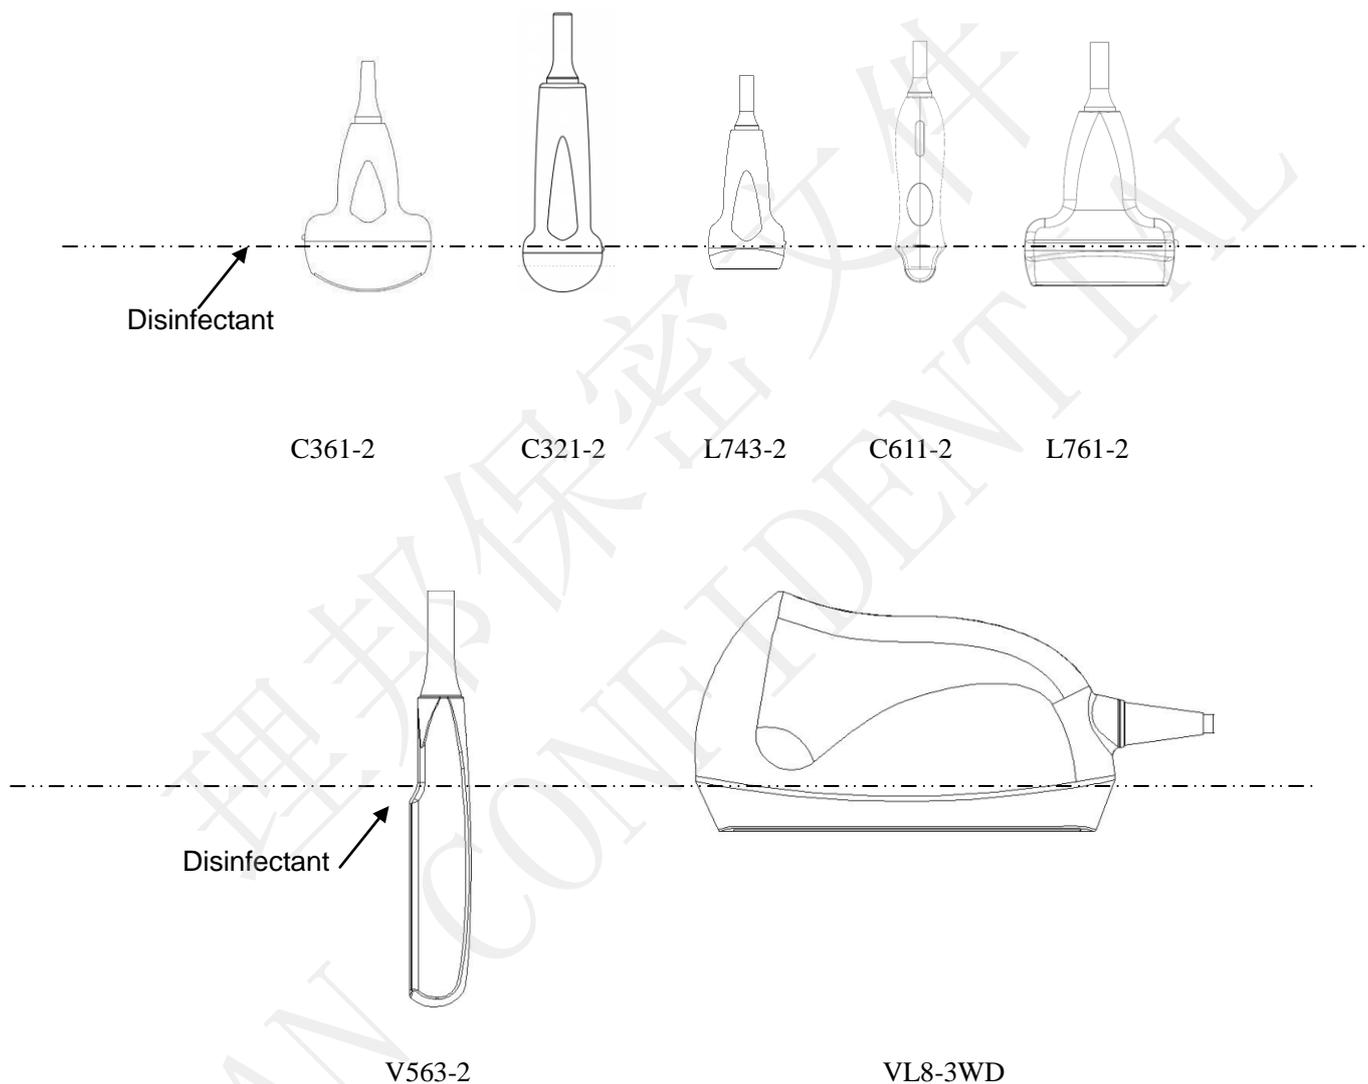

Figure 11-1 Depth of the Probe Immerged into Disinfectant
2. Place the cleaned and dried probe in contact with the disinfectant (refers to figure 11-1 for the contacting area) for the time specified by the disinfectant manufacturer.